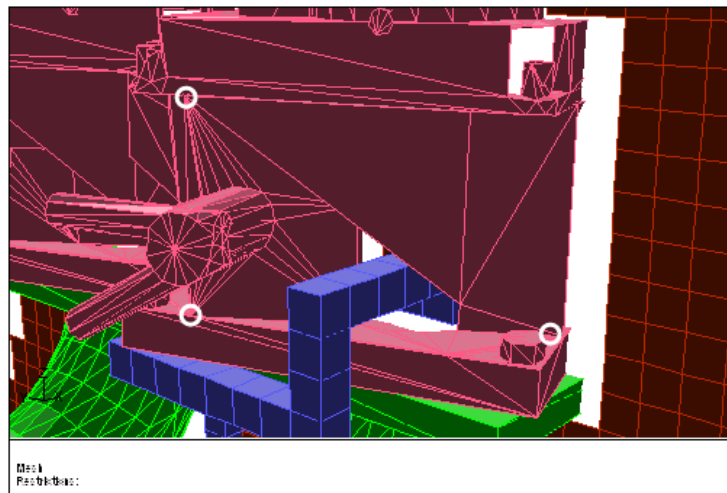

Figure 7.16: Nodes Selected to Close the Hole in the f\_v8-airintake Zone
- iv. Zoom in to the hole and select three nodes as shown in Figure 7.16.